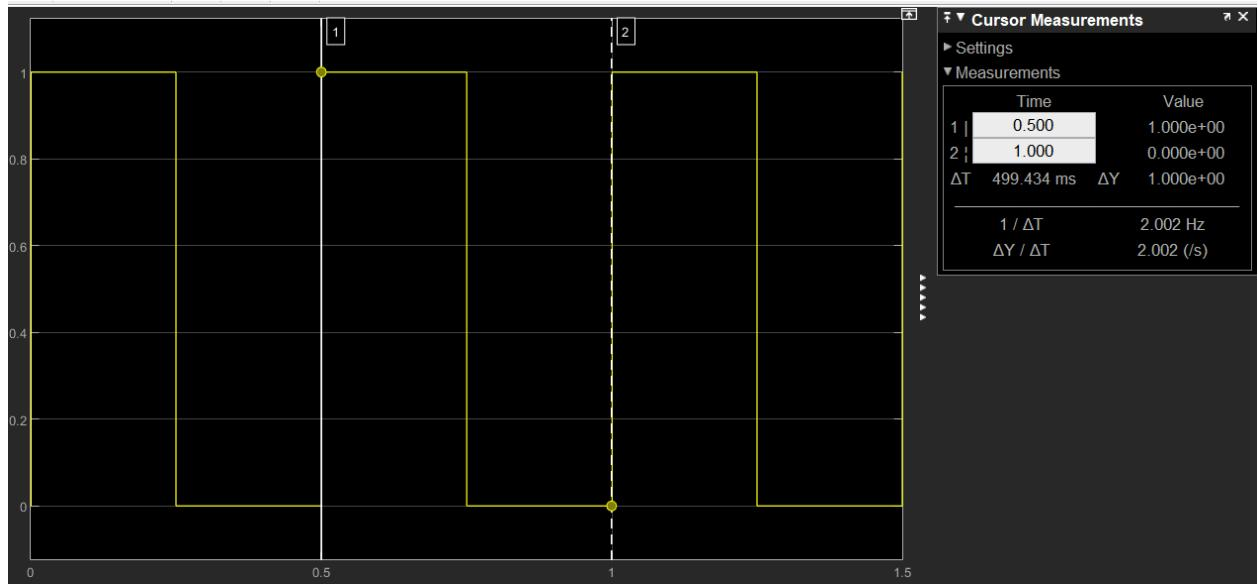
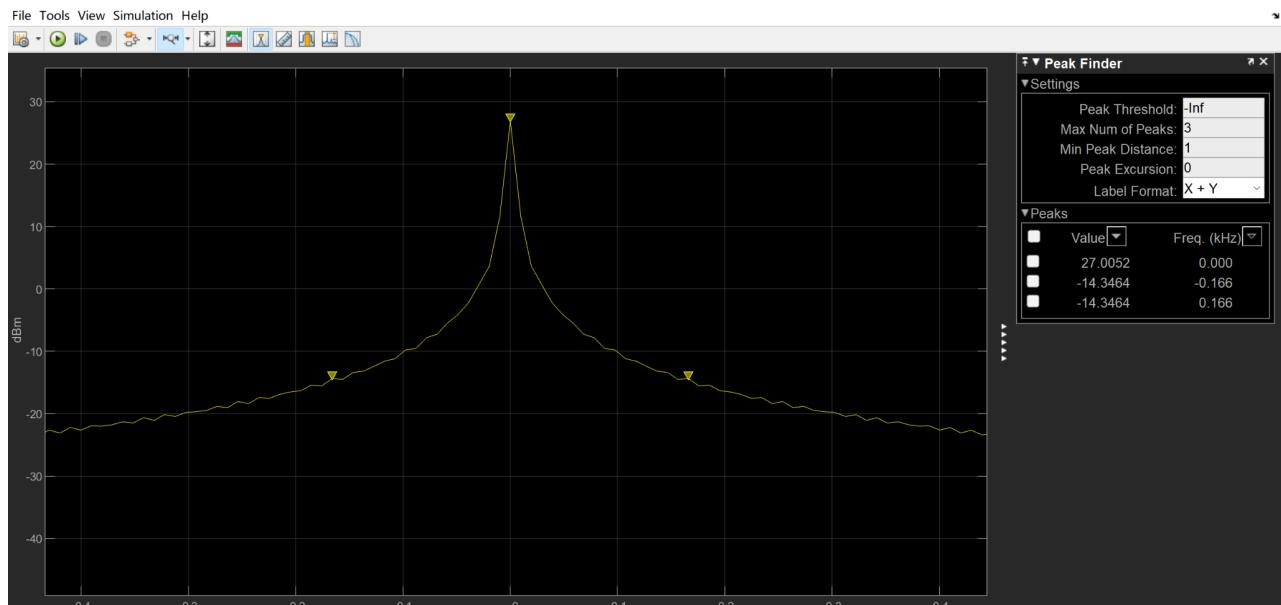

*Fig. 3: Output of the triangular-wave on the Scope*
*Fig. 4: Output of the triangular-wave on the Spectrum*
- 2) Replacing the sine wave with a triangular wave generated by a triangle generator, which was set up to sample based with a period (number of samples) of 5000 and a sample time of 1e-4, we observed the outputs on the Scope and the Spectrum (Fig. 3 and Fig. 4)